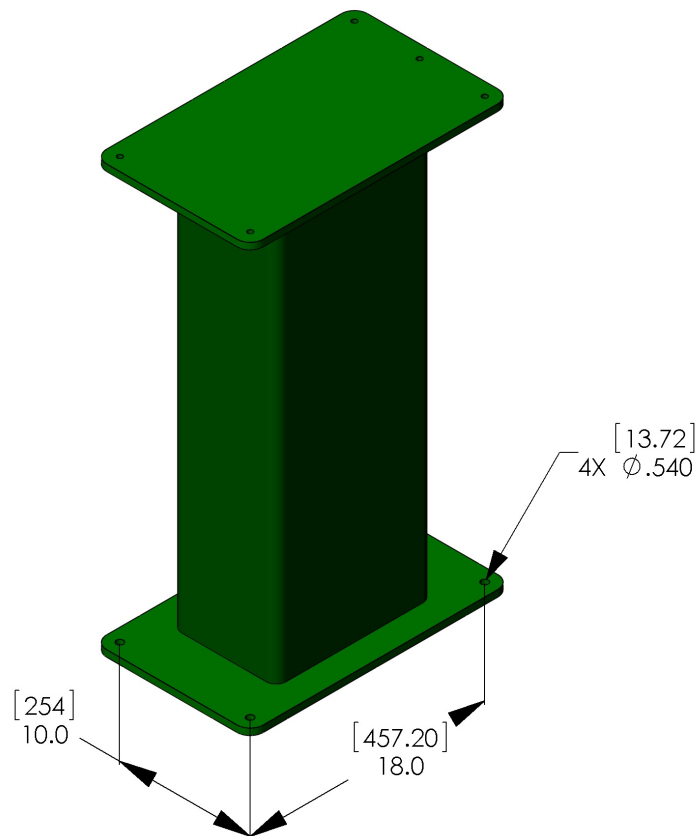

Figure 1. SFS91 Base Plate mounting holes
The SFS91 Servo Finishing Stand is secured by four (4) fasteners passing through mounting holes located in the Base Plate. The Base Plate mounting hole locations are shown in Figure 1. The SFS91 must be securely mounted to keep the unit from moving during operation, and must be mounted level to achieve the desired force output. A spirit level can be placed on the top of the Finishing Stand and shims can be inserted under the Base Plate as required.